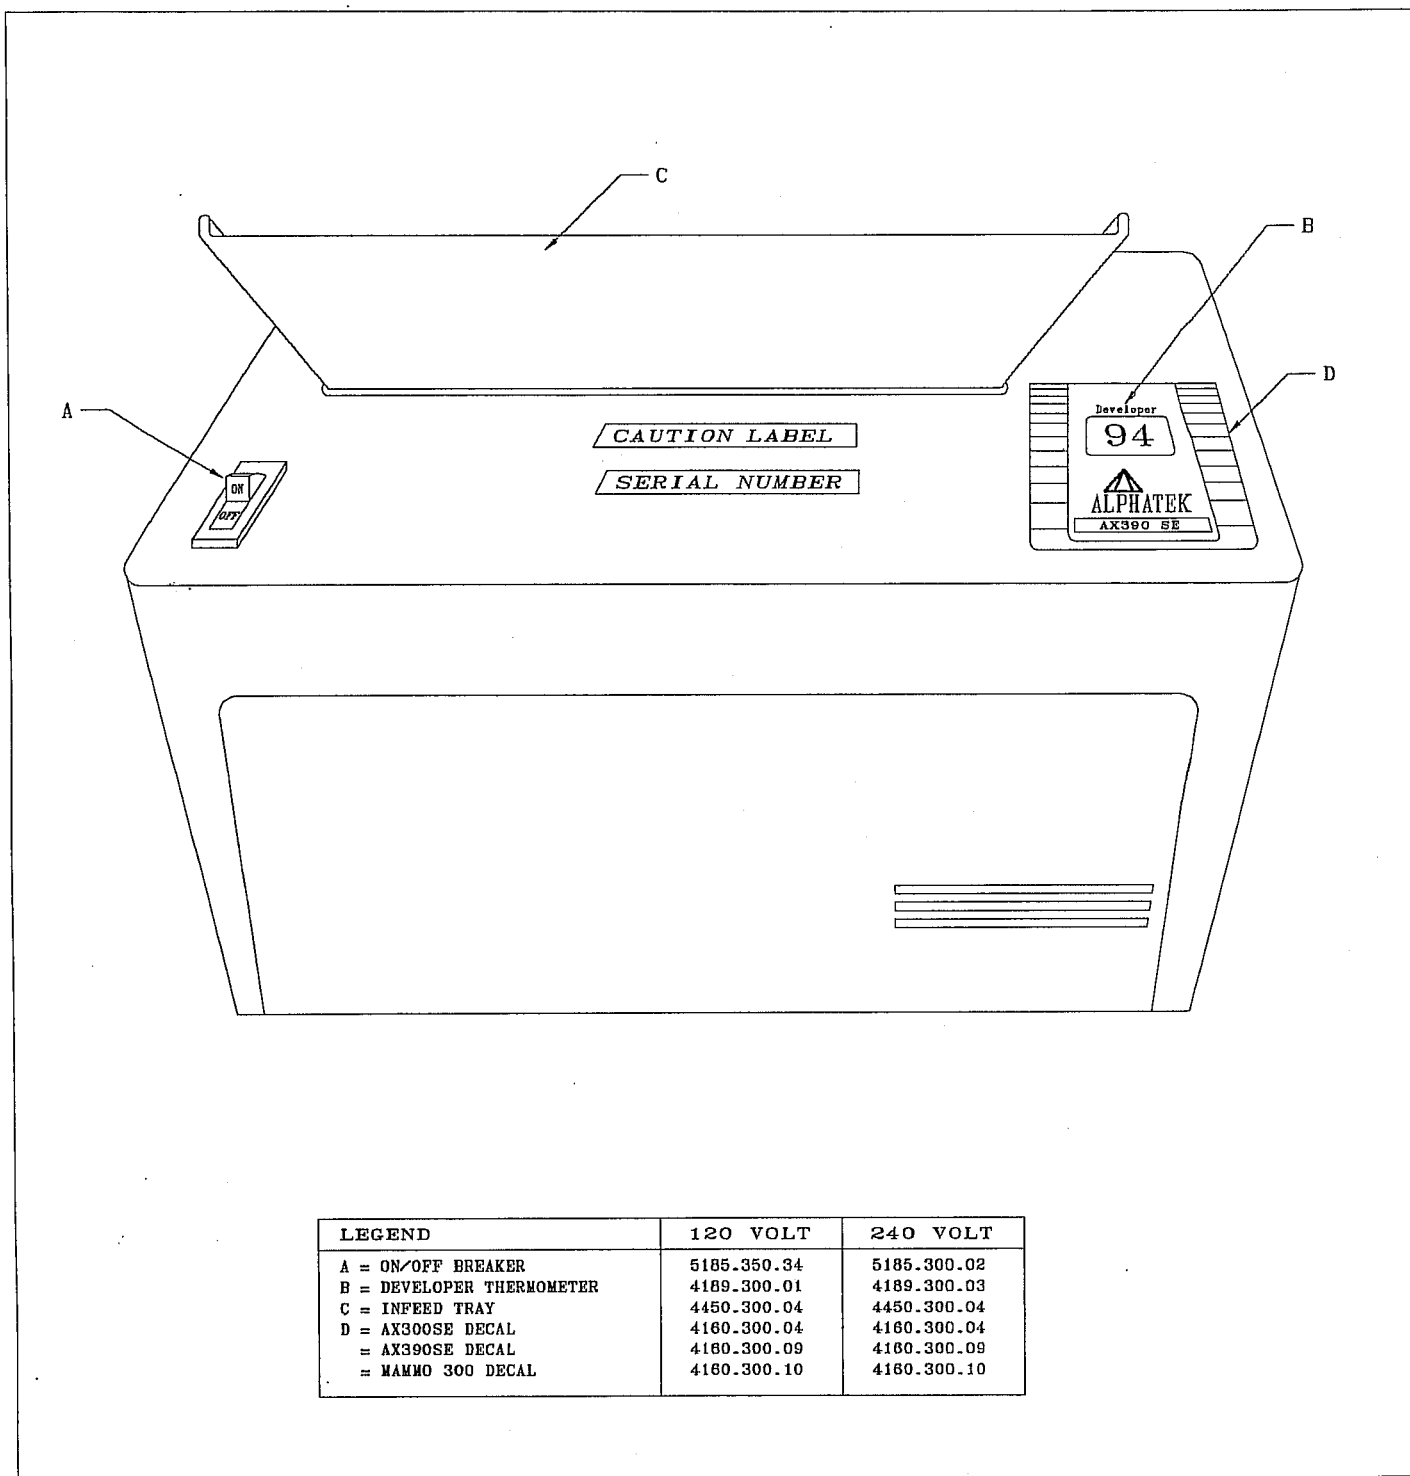

FIGURE 2-1.
As you will note in Fig. 2-1 there are various switches and lights on the control panel. These items perform different functions as listed below:
A.) ON-OFF BREAKER (FIG. 2-1, ITEM A)
B.) DEVELOPER THERMOMETER (FIG. 2-1, ITEM B)